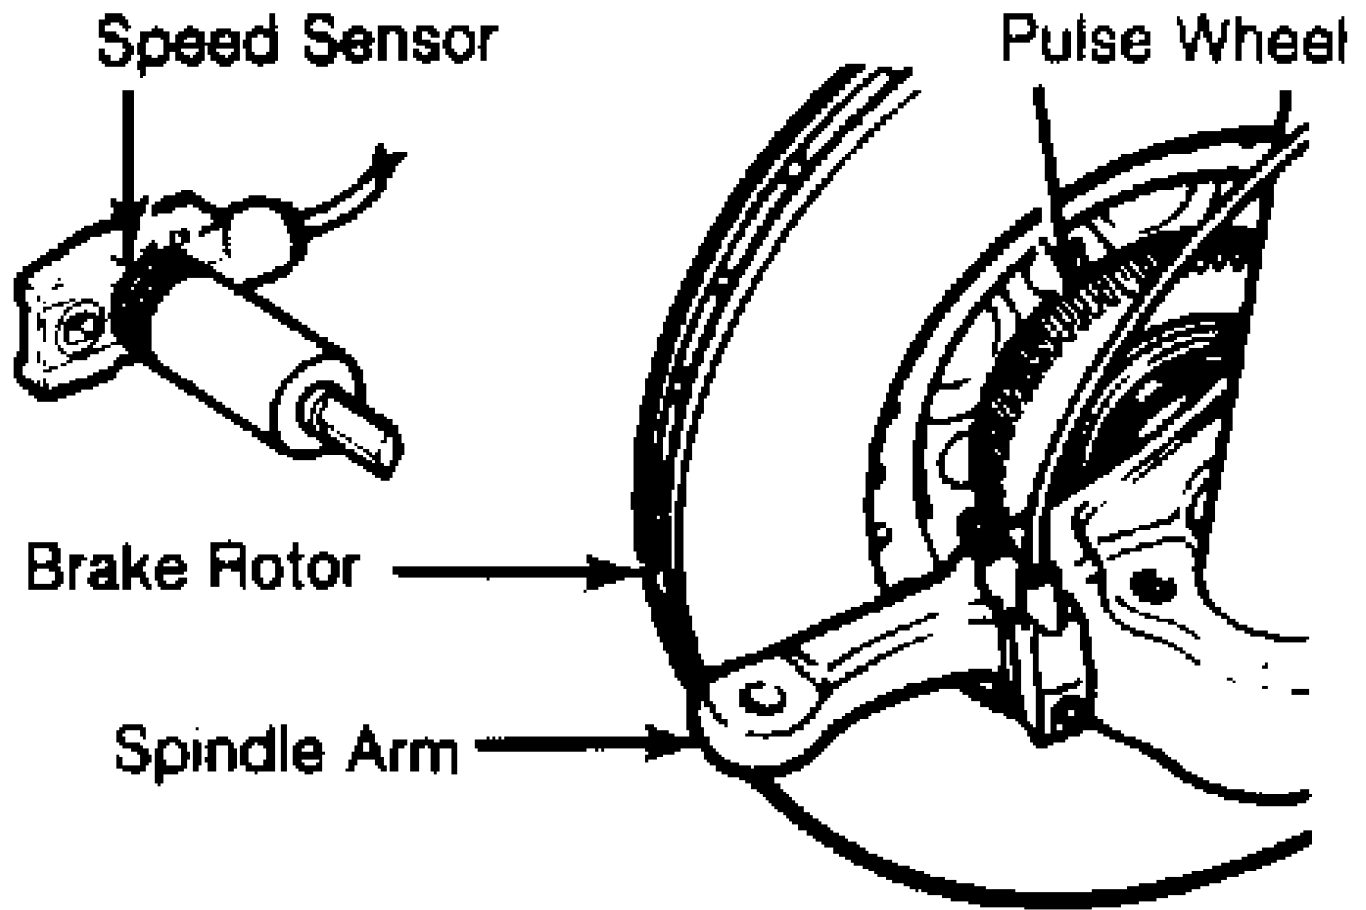

Fig. 3: Locating ABS Front Speed Sensor
2) If resistance is not within specification, check resistance at sensor connectors on suspension tower in engine compartment. If resistance is within specification, repair wiring harness to ECU. If resistance is not within specification, replace sensor. See Fig. 3.
1) Locate sensor wires at sensor. See Fig. 3. Follow sensor wire to connector on spring tower. Disconnect sensor wires from connector. Pull wires through wheel arch and release from clamps.